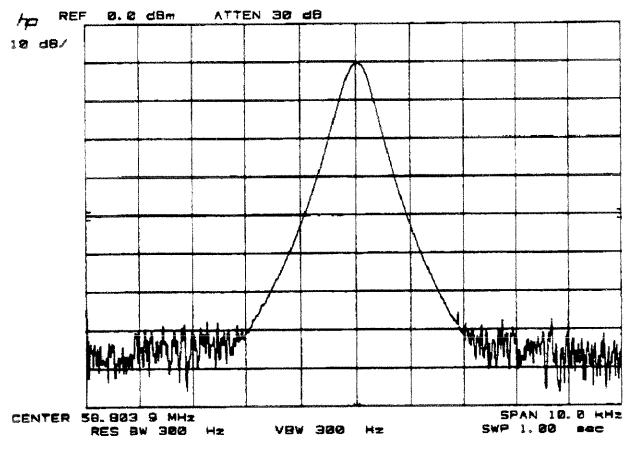

Figure 7-25. Stable HI OUT Signal in FRACN TUNE Mode
5. If the HI OUT signal is as clean as Figure 7-25, the A7 assembly is faulty. Otherwise, check the A14-to-A7 cable or recheck the A13/A14 fractional-N as described ahead.
2. Use a spectrum analyzer, to examine the HI OUT signal from the A14 assembly. The signal should appear as clean as Figure 7-25. The comb shape may vary from pulse generator to pulse generator.